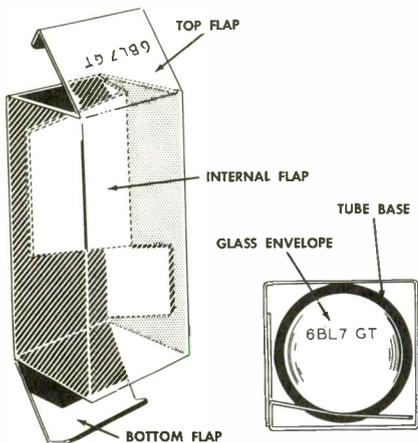

Figure 7. Diagram Showing Tube in Sylvania Tube Carton.
Figure 6 shows a picture of two Sylvania tube cartons. The one on the left (A) has been opened and closed several times for the purpose of making tube substitutions in receivers and the top flap has torn so that it presents a decidedly shop worn appearance. Moreover, the identity of the tube in the carton goes unknown unless one reaches up and pulls down the open flap on which the tube number is stamped. Contrast this with the tube carton on the right (Figure 6B); this carton has also been opened and closed many times but it looks new. That is because the top flap, which is the one bearing the tube type number and in full view, is never opened. Instead, the flap on the bottom is the one that is opened and the tube is removed by grasping the base pins and pulling it out through the bottom of the carton. This procedure applies to all GT and metal type tubes which will not come out through the top of their cartons because their bases are blocked by the diagonal internal flap visible in Figure 7. Opening the top flap of these cartons, therefore, is totally unnecessary.